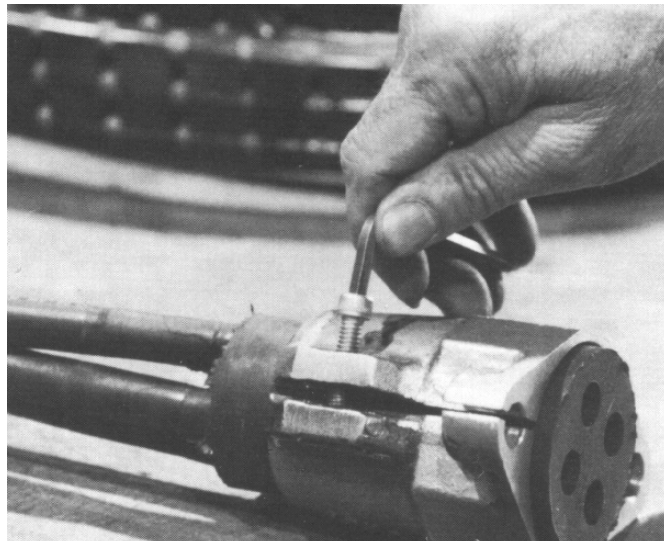

Figure 5.2.8f Preparing molded plug clamp
4. Slide the MLE clamp (180) down over the molded plug (9259) as far as possible. Then check gap from bottom face of clamp (9259) to bottom face of molded MLE plug (8171). This gap should be minimum 1/32" (0.8 mm) and maximum 3/32" (2.4 mm). See Figure 5.2.8f.